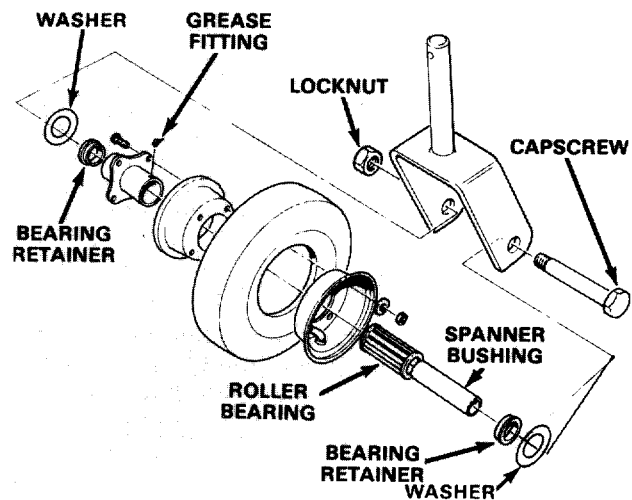

Figure 20
1. Remove locknut from capscrew holding castor wheel assembly between castor fork (Fig. 20). Grasp castor wheel and slide capscrew out of fork.
**Note:** Account for the two thrust washers (Fig. 20).
2. Tip wheel to the side and allow spanner bushing to fall out (Fig. 20).
6. Pump more grease through grease fitting on wheel (Fig. 20) until bearing is greased thoroughly.